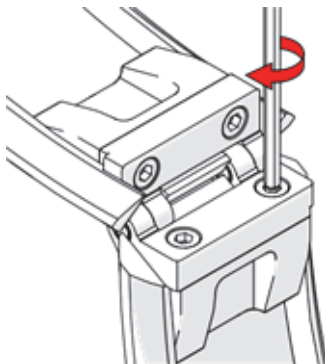

Figure 1-15 Secure the screws
2. Tighten the two hex screws with a 5mm hex driver to secure the two halves (see Figure 1-15 on page 36).